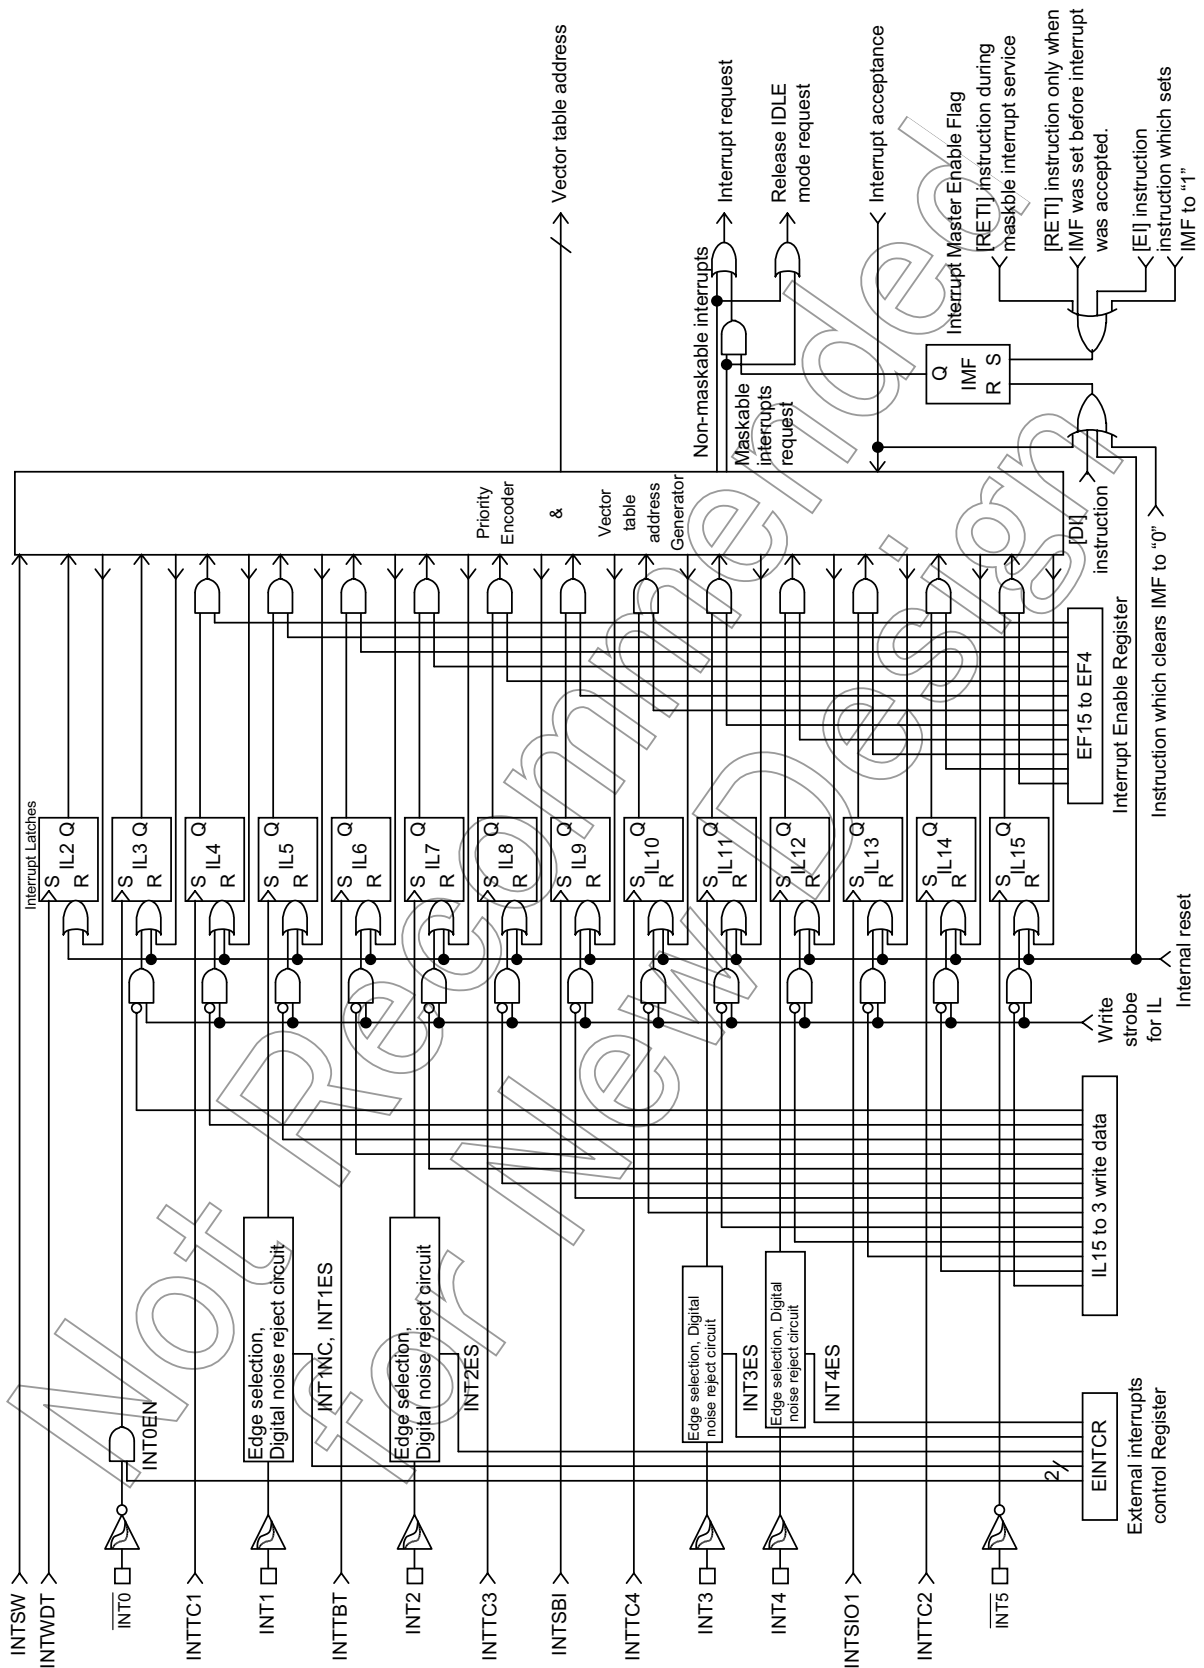

Figure 1.5.1 Interrupt Controller Block Diagram
The interrupt latch is set to "1" when an interrupt request is generated and requests the CPU to accept the interrupt. The acceptance of maskable interrupts can be selectively enabled and disabled by the program using the interrupt master enable flag (IMF) and the individual interrupt enable flags (EF). When two or more interrupts are generated simultaneously, the interrupt is accepted in the highest priority order as determined by the hardware. Figure 1.5.1 shows the interrupt controller.